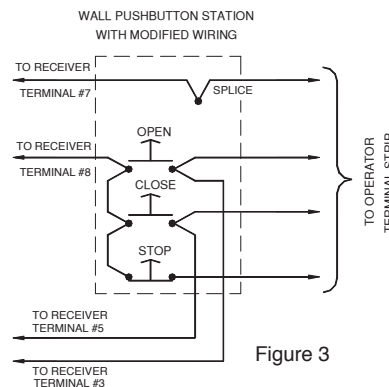
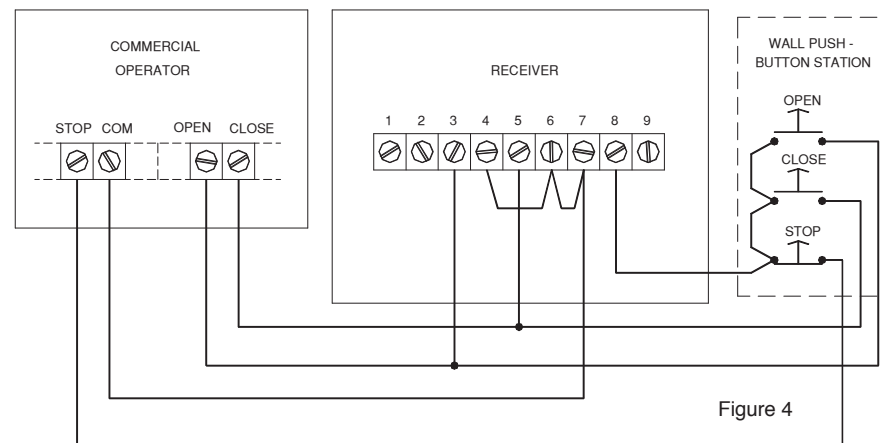

Figure 3
Figure 4
- Check the wire & connections in the STOP circuit. Refer to Figure 4.
Typical 4-wire 3-button stations are wired as shown in Figure 3. Number 18 gauge wire or heavier must be used for wiring the control stations and the receiver to the door operator. Smaller gauge wire may cause operational problems, especially when multiple 3-button stations are used. For typical installations the receiver is mounted near the door operator, away from any high voltage conduits or steel support beams. For wiring, follow the steps below and refer to Figure 4.
3. Connect the following wires from the receiver to the operator 3-button COMMON (as shown in Figure 4):